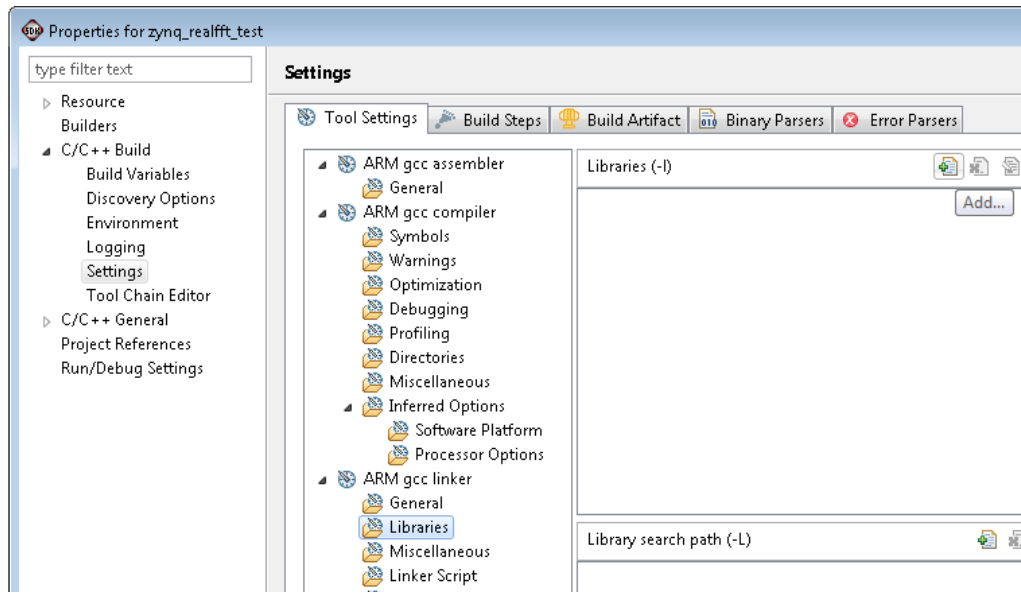

Figure 264: C/C++ Build Settings
- a. Right-click the **zynq_realfft_test** project in the Project Explorer pane and select **C/C++ Build Settings** (Figure 264).